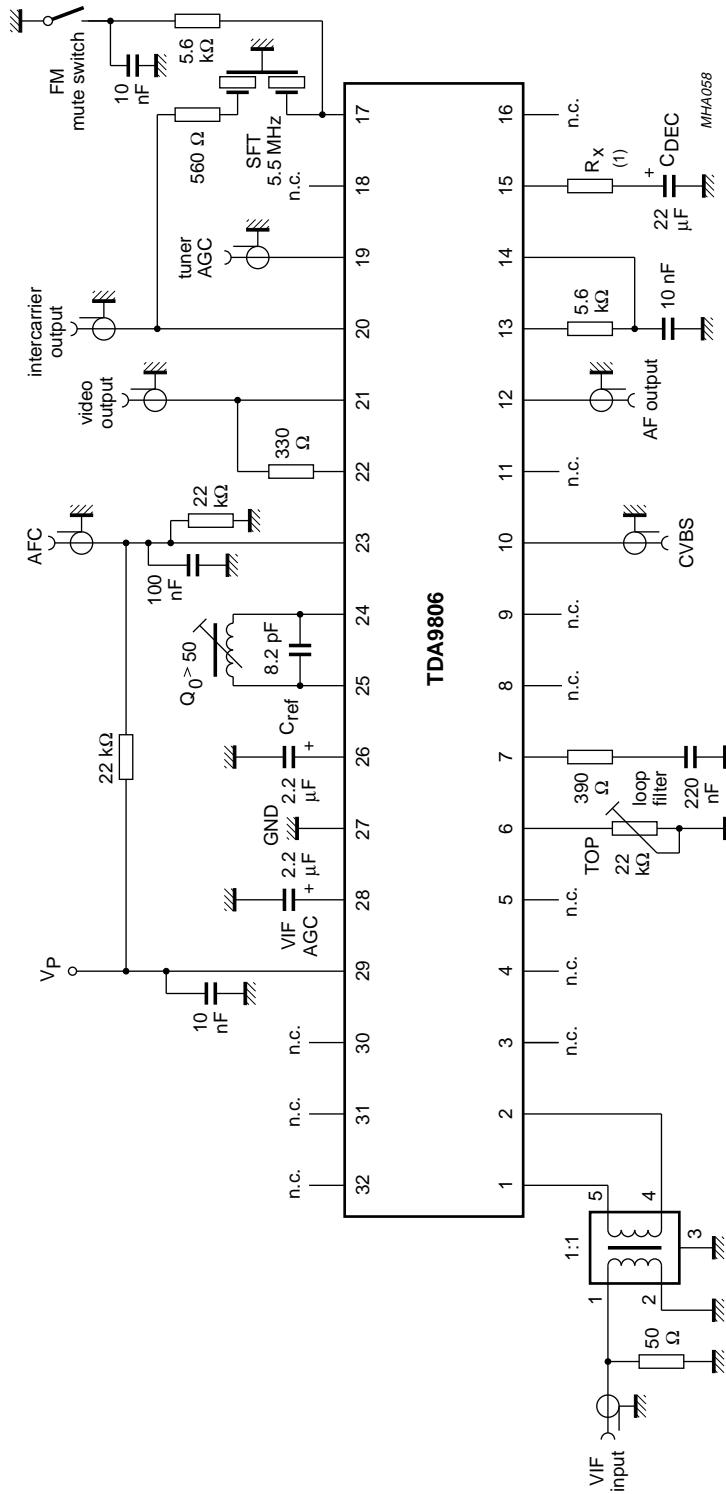

Fig.10 Test circuit.
18. Measured with an FM deviation of 27 kHz the typical AF output signal is 500 mV (RMS) ($R_x = 0\text{ }\Omega$; see Fig.10). By using $R_x = 470\text{ }\Omega$ the AF output signal is attenuated by 6 dB (250 mV RMS). For handling an FM deviation of more than 53 kHz the AF output signal has to be reduced by using R_x in order to avoid clipping (THD < 1.5%). For an FM deviation up to 100 kHz an attenuation of 6 dB is recommended with $R_x = 470\text{ }\Omega$.
22. The PC/SC ratio at pins 1 and 2 is calculated as the addition of TV transmitter PC/SC ratio and SAW filter PC/SC ratio. This PC/SC ratio is necessary to achieve the S/N (W) values as noted. A different PC/SC ratio will change these values.